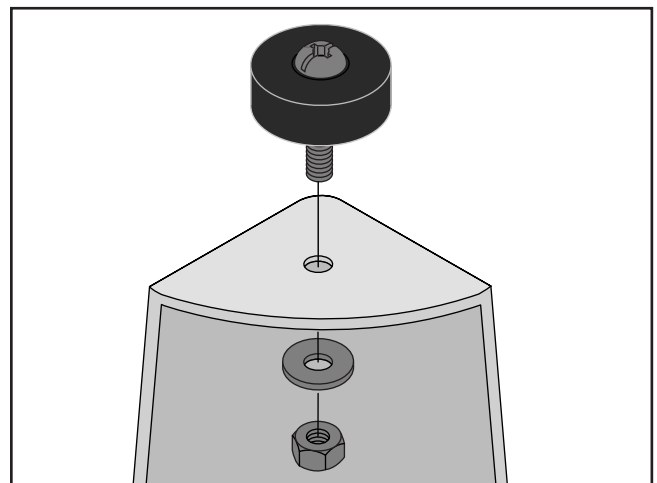

Figure 14. Rubber feet installation.
- Using a 10mm wrench and a Phillips head screwdriver, secure each rubber foot to the stand legs with the Phillips head screws, the hex nuts, and the flat washers (**Figure 14**).